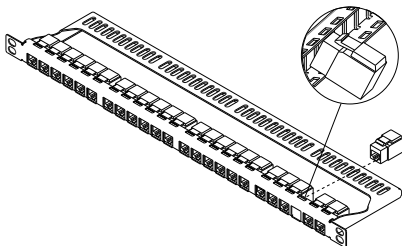

Рисунок 4 – Установка модуля Keystone в патч-панель PP24-D05UMCxxU-D05H / Figure 4 – Installing the Keystone module in PP24-D05UMCxxU-D05H patch panel
- install fully mounted Keystone modules into the patch panel until they click as shown in figures 4 and 5;